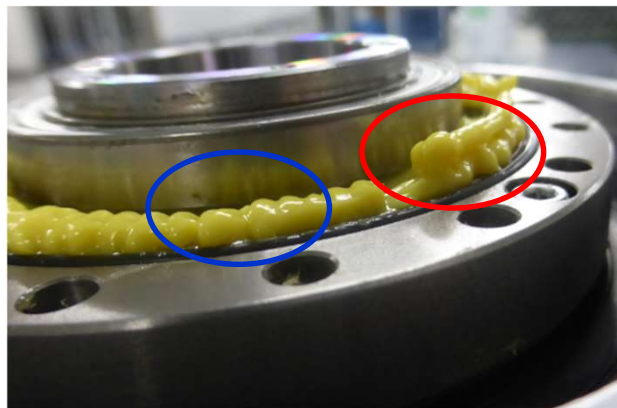

Fig.4
4. Make sure grease is applied evenly. Refer to Fig 4